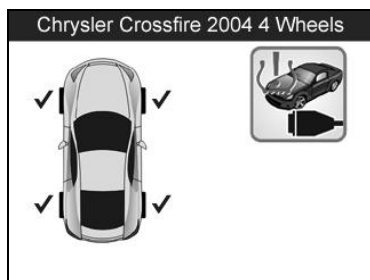

Figure 3.17
- 4) Follow the same process in **3.2 Vehicle Selection** to the **All Wheel Mode** function menu screen, use the **UP/DOWN** scroll button and **LEFT/RIGHT** scroll button to select the **Relearn** function. (Figure 3.17)